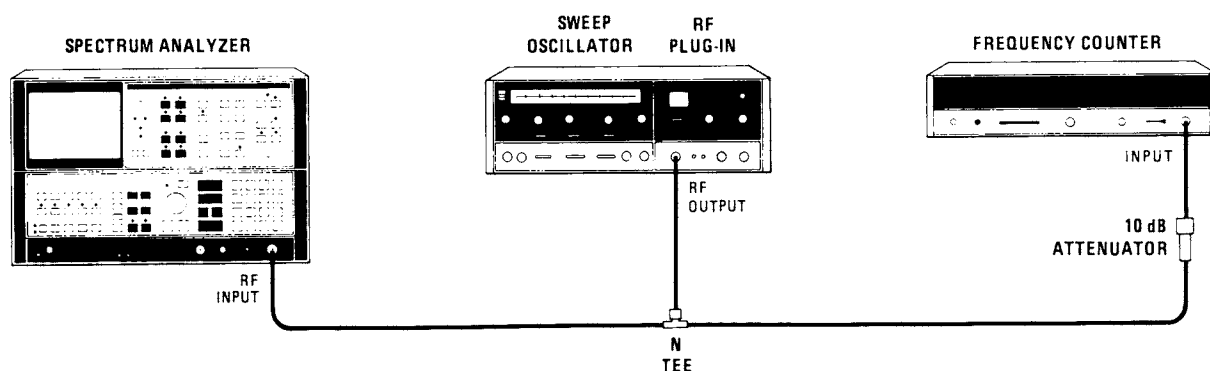

Figure 4-6. Wide Span Test Setup
8. Disconnect electronic counter from analyzer input. Connect equipment as shown in Figure 4-6.